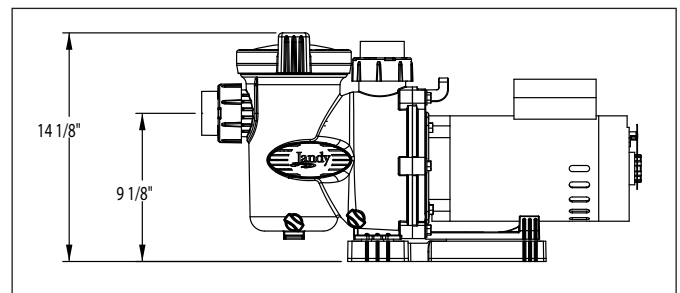

Figure 6. Place FHP with Base and Spacers on Equipment Pad
To replace a Pentair® WhisperFlo® pump with a Jandy FHP, place the FHP base with spacers on the equipment pad and place the FHP on the base, as shown in Figure 6.
- Place the FHP on the base assembly. See Figure 6.